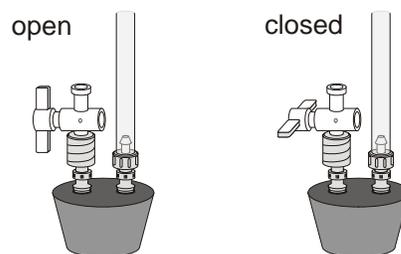

Figure 4
- After 30 seconds, close the 2-way valve *above the rubber stopper* as shown in Figure 4—do this by turning the white valve handle so it is perpendicular with the valve stem itself.
- Open the 2-way valve above the rubber stopper—do this by turning the white valve handle so it is aligned with the valve stem (see Figure 4).